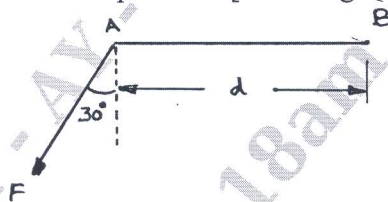

Fig.Q1(c)
- c. Transfer the force F acting at point A to point B. [Refer Fig.Q1(c)]